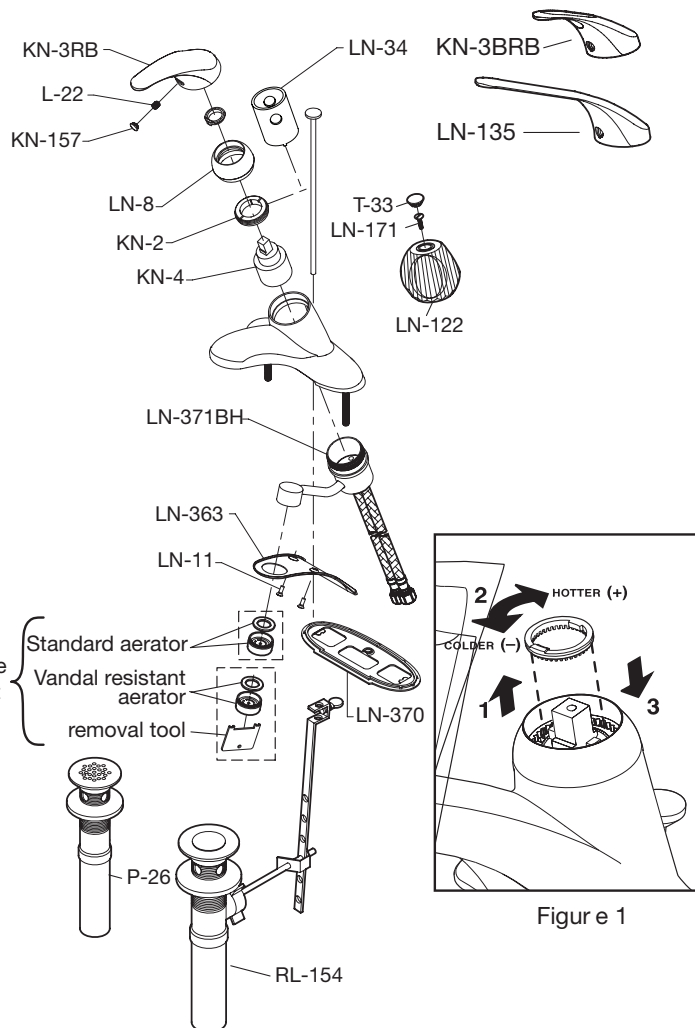

Figure 1
6. If when faucet is on and in full hot position and water is too hot, remove plug button (KN-157), loosen set screw (L-22) and remove handle (KN-3RB, KN-3BRB or LN-135) or plug button (T-33), screw (LN-171), and handle (LN-122). Lift limit stop ring using a small flat head screw driver and rotate counter clockwise to lower temperature. If water is not hot enough, rotate clockwise (See Figure 1 on reverse side). After correct temperature is achieved, reattach handle, reversing procedure above.